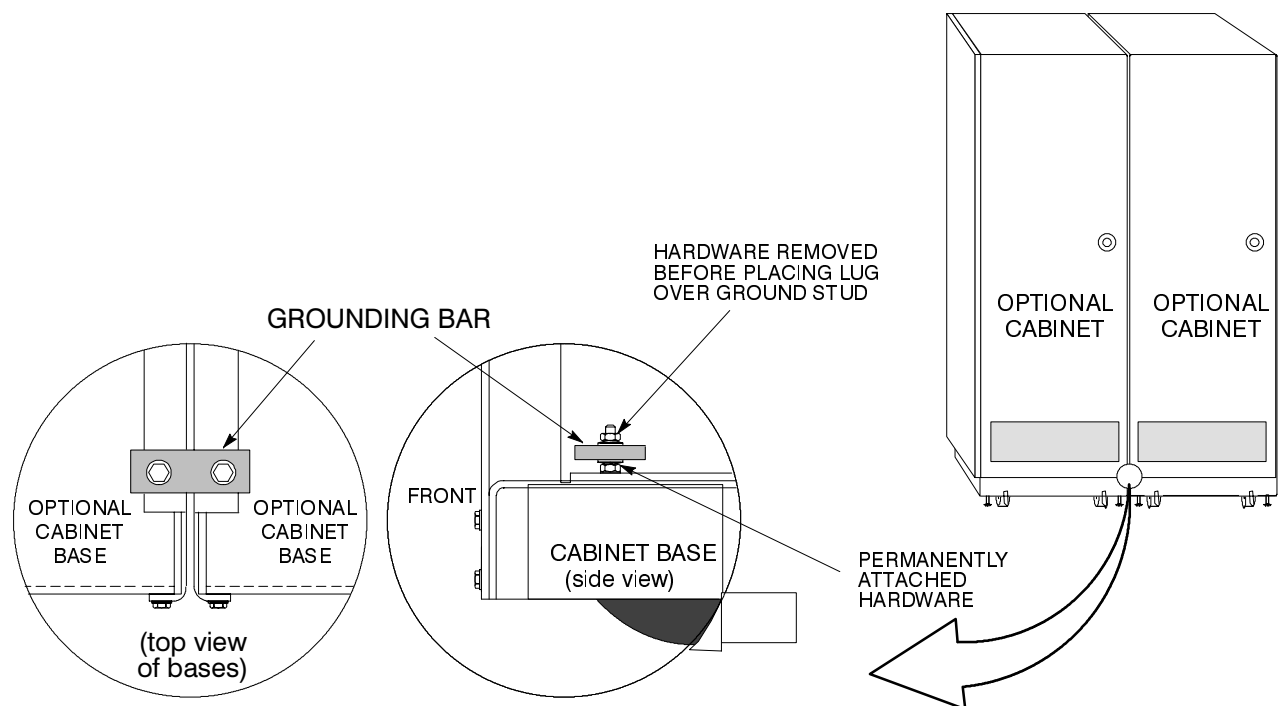

Figure 14. Cabinet-to-Cabinet Grounding – Method B
2. Mount the grounding bar as shown in Figure 14, attaching it to the frame of each cabinet using the hardware previously removed.